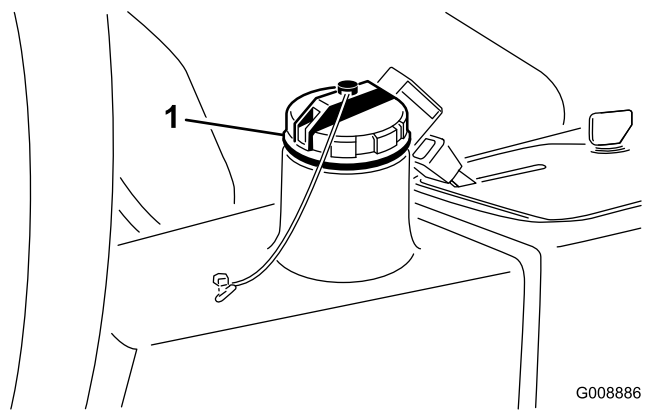

Figure 79
4. Fill the reservoir (Figure 79) with approximately 13.2 L (3.5 US gallons) of hydraulic fluid; refer to Checking the Hydraulic System \(page 48\).